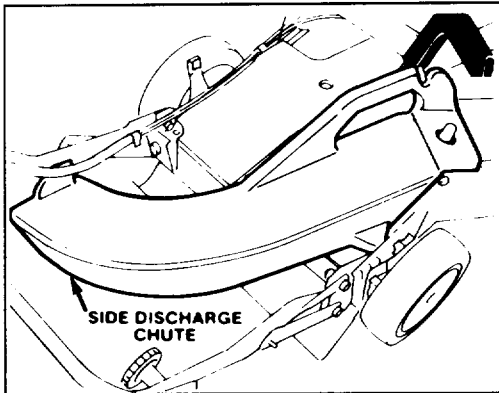

Figure 32
1. Side Discharge Kit, Model No. 59168—Installs in seconds. Rear mounted in place of the grass bag. Disperses clippings while trimming on both sides (Fig. 32).